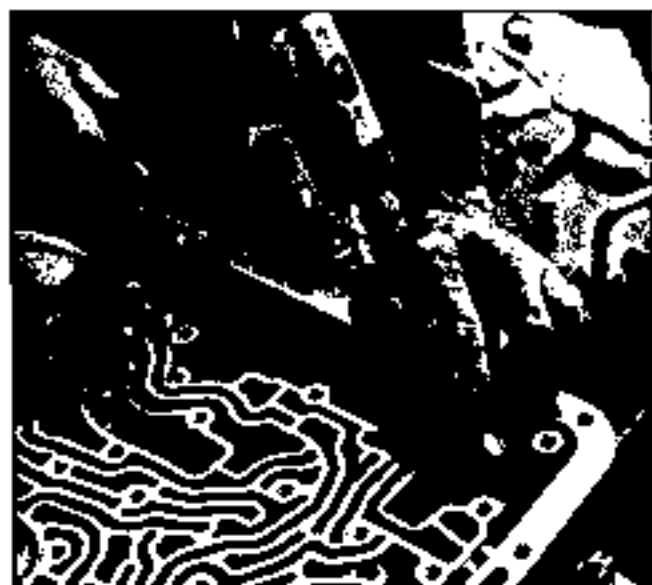

Fig. 7G-22 Removing Parking Pawl Shaft
6. Remove intermediate overrun brake band, direct and forward clutch assemblies from case (Fig. 7G-26).